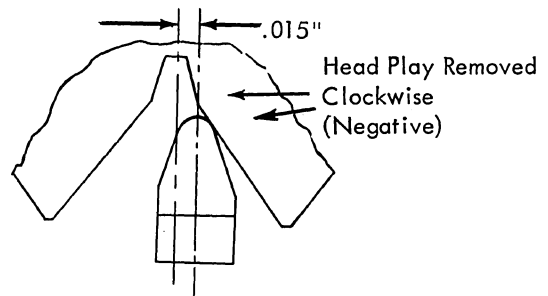

FIGURE 74. Type Head Homing
8. Preliminary Typehead Homing - Half-cycle the machine using an upper case zero rotate (latched home) character. Loosen the set screw in the bottom of the rotate pulley and slip the typehead so that the detent will enter $.010$ " to $.020$ " from the center of the detent notch, on the negative side of the notch, when the head play is lightly removed in the negative direction (Fig. 74).